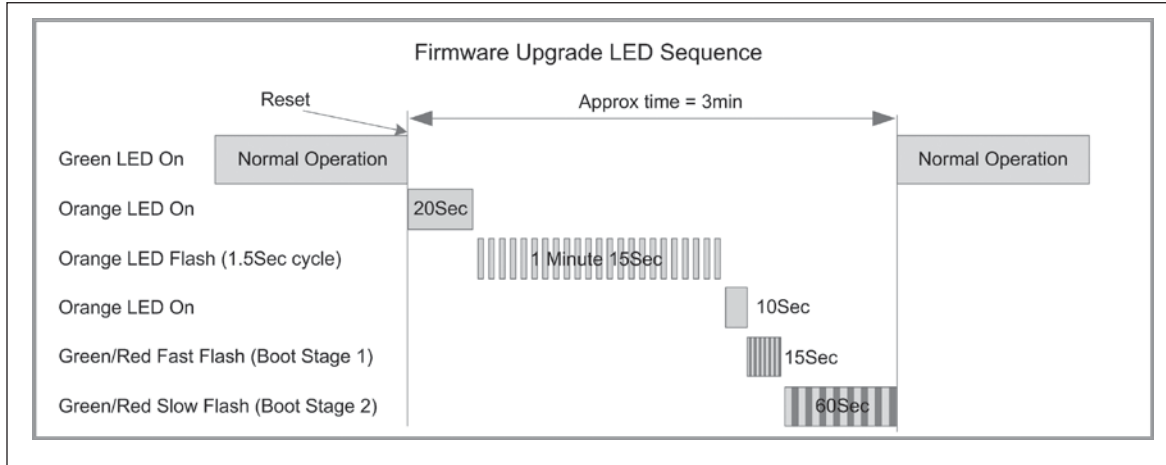

Figure 58. Firmware upgrade LED indicators
5. The PWR LED will flash, as indicated in [Figure 58 below].